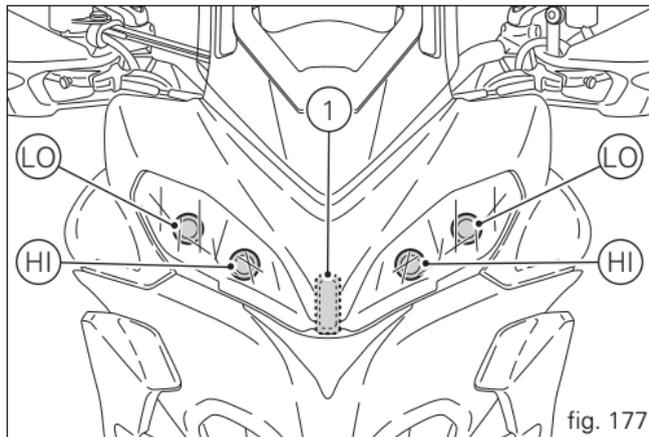

fig. 177
fig. 177 shows the locations of the low beam bulbs (LO), high beam bulbs (HI) and the parking light bulb (1).